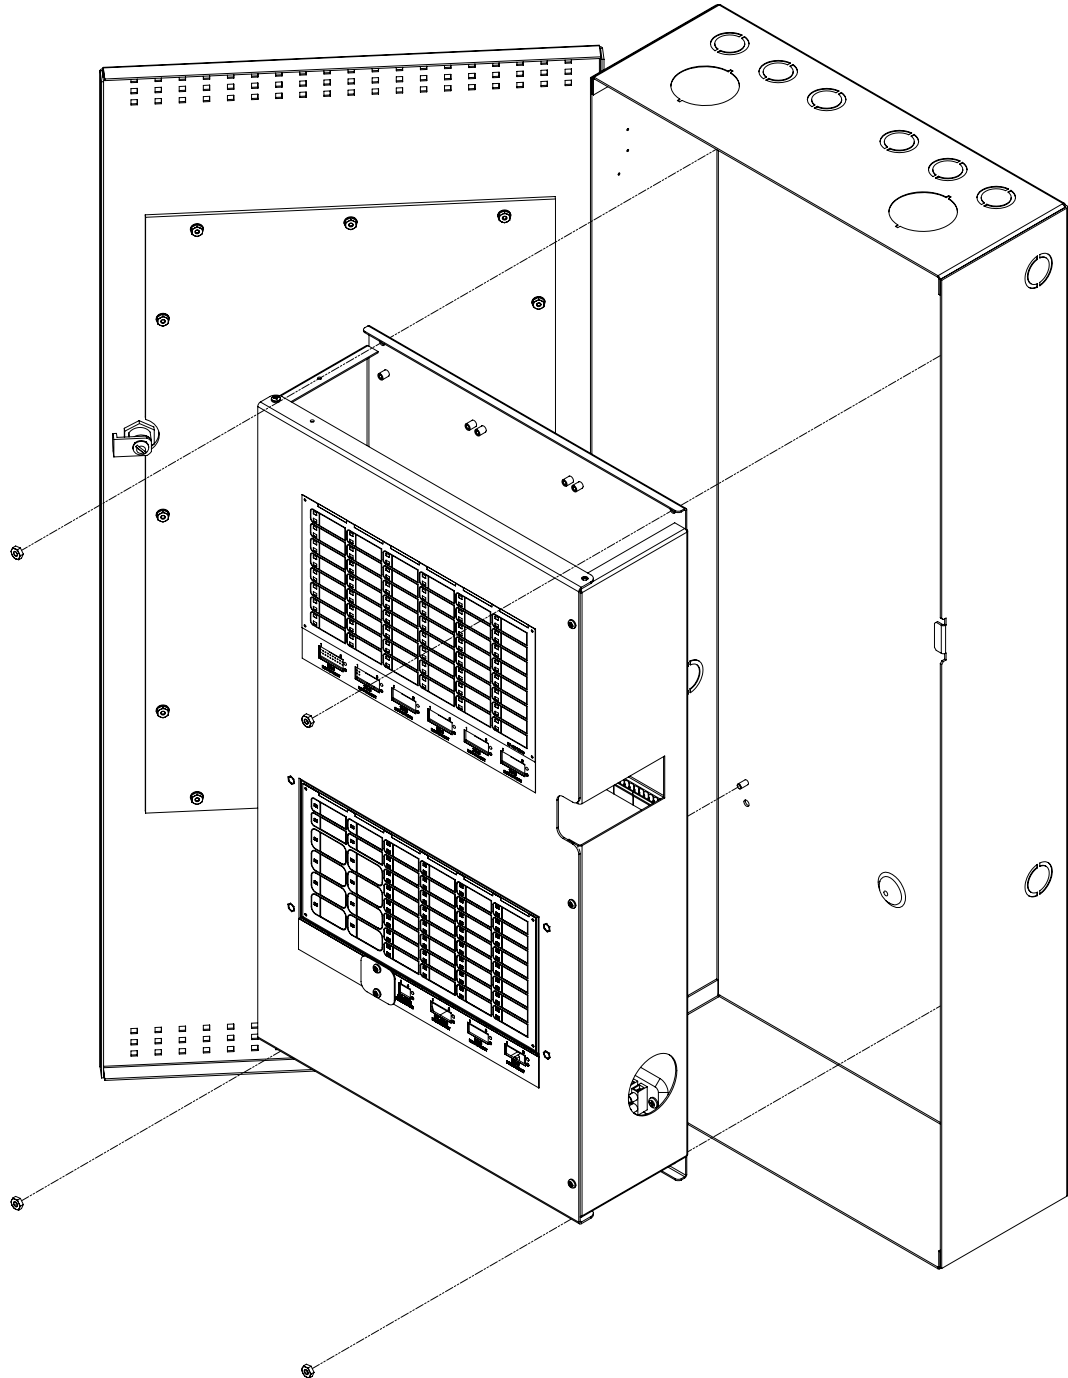

Figure 4: Mounting Fire Alarm Chassis into BBX-1024XT(R)
Install the chassis into the BBX-1024XT(R) enclosure as shown below in Figure 4. Use four (4) 8-32 nuts to connect the Chassis to the BBX-1024XT(R). Connect all green ground wires to the dimple in backbox and secure them using a #8 screw. Ensure that this ground connection leads to an earth ground. Connect the battery cables to the batteries. Refer to the fire alarm panel installation manual for more information.